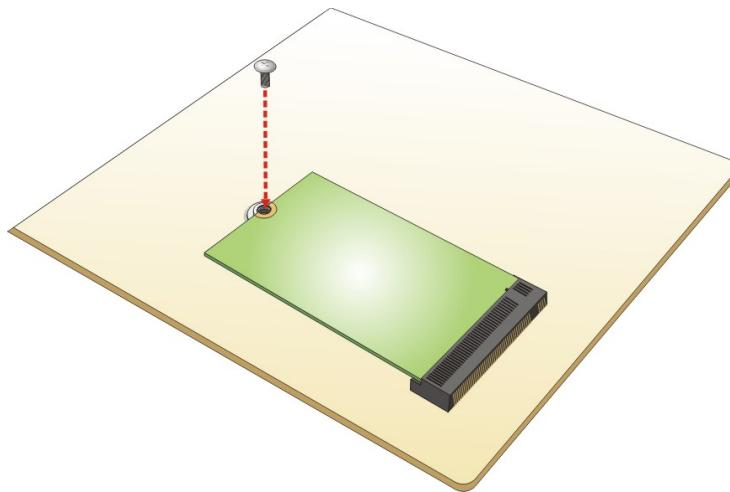

Figure 3-8: Securing the WLAN Card
Step 5: Secure the WLAN card with an M2*3 retention screw (**Figure 3-8**).